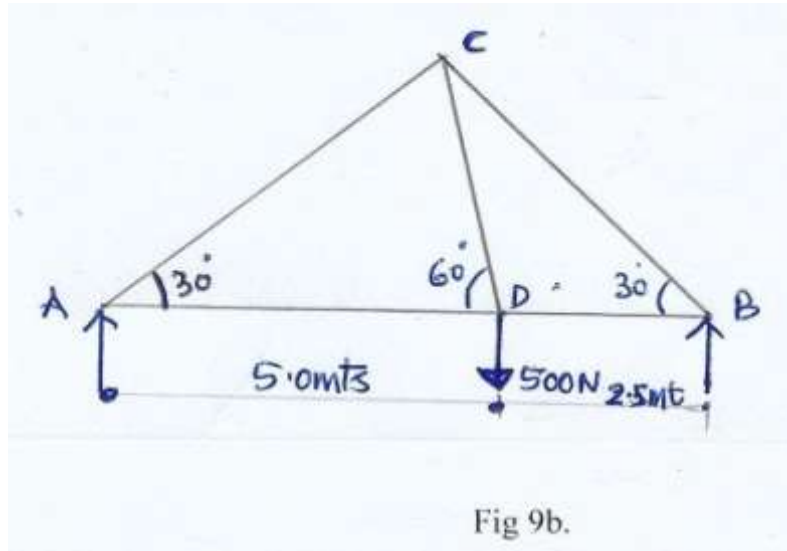

Fig. 9b
(b) Determine the support reactions for the truss shown in Fig. 9b. 06
- (c) Determine the force in each member for truss shown in Fig. 9b by "Method of Joints". 09